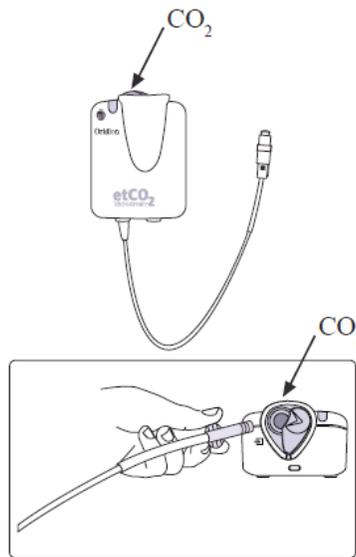

Figure 10: Inserting sample line into module
7. Open the cover labeled with the input symbol () on the Oridion Microstream MicroPod ETCO₂ Module. Refer to Figure 10.
8. Place the orange or yellow threaded connector of the sampling line into the CO₂ input port beneath the opened cover. Refer to Figure 10.